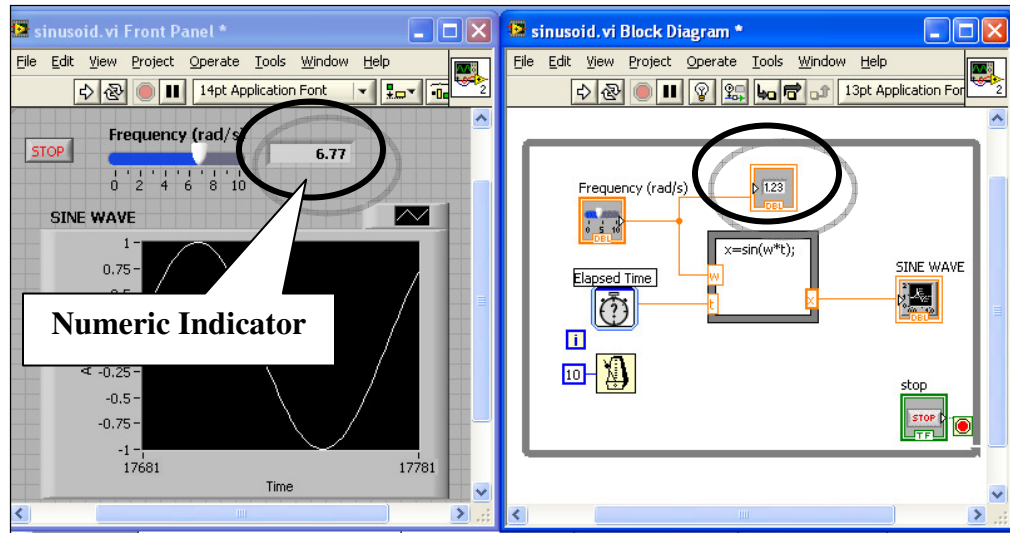

Figure 21. Adding a “Numeric Indicator” control to the “Frequency (slider)” control.
- Include a numeric indicator to the “Frequency (slide)” control. (see Figure 21)
Numeric Indicator shown in Figure 21.